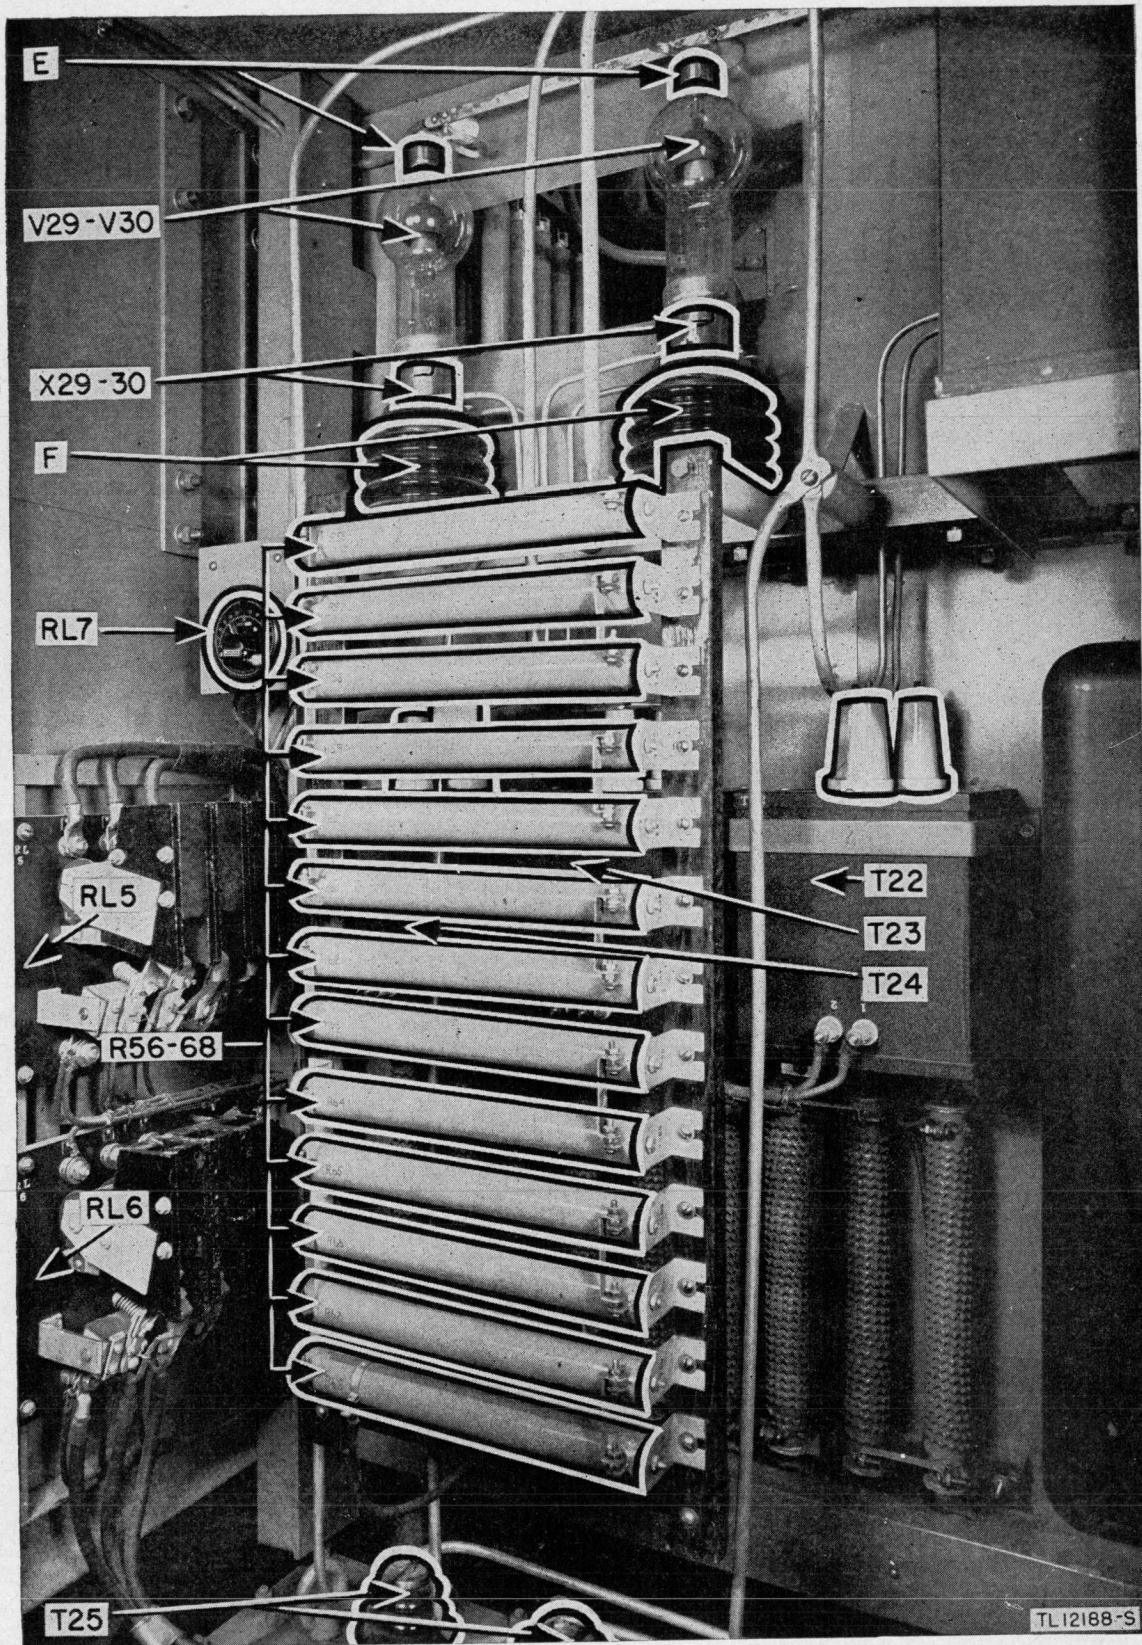
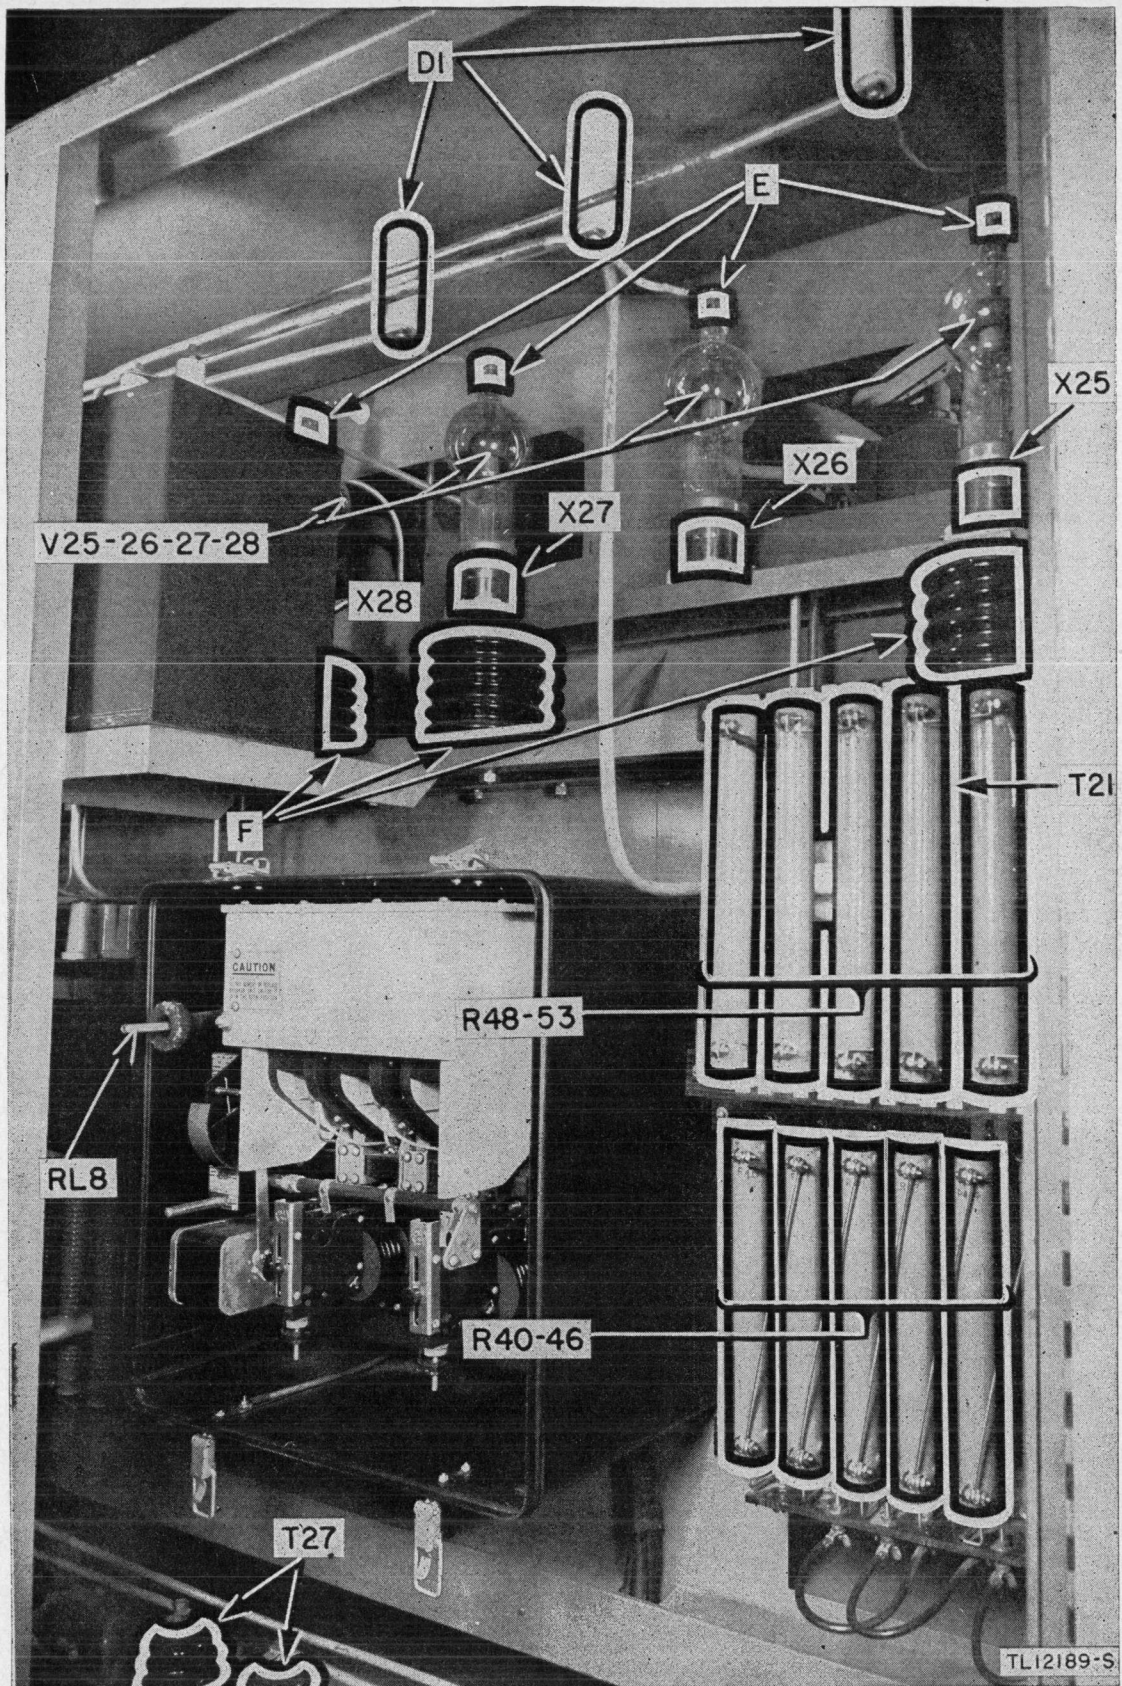

Figure 27. High voltage rectifier, rear view left side.
Figure 28. High voltage rectifier, rear view right side.
*Note.* The parts outlined in white in figures 27 through 40 are parts to be masked as described in the text.
(1) Remove the six type 575A rectifier tubes V29 and V30 (fig. 27) and V25, V26, V27, and V28 (fig. 28).
(2) Remove the reset handle of high-speed circuit breaker RL8 (fig. 28) by extracting the thumb-screw in the end and pulling the handle off the shaft.
(3) Remove the cover of circuit breaker RL8. (See fig. 28.)
d. **MASKING.** (1) Mask the six rectifier plate connector clips E. (See figs. 27 and 28.)
(2) Mask the three plate lead stand-off insulators D1. (See fig. 28.)
(3) Mask the six rectifier tube sockets X29 and X30 (fig. 27) and X25 through X28 (fig. 28), by filling them with tissue paper.
(4) Mask the five tube socket mounting insulators F. (See figs. 27 and 28.)
(5) Mask the front of time delay relay RL7. (See fig. 27.)
(6) Mask the ceramic insulators on filament transformers T21, T22, T23, and T24. (See figs. 27 and 28.)
(7) Mask the contacts of contactors RL5 and RL6. (See fig. 27.)
(8) Mask the ceramic insulators on the three transformers T25, T26, and T27 (figs. 27 and 28) (only two insulators visible in each photograph).
(9) Mask resistors R56 through R68 (fig. 27) with paper and masking tape.
(10) Mask the contacts and any small moving parts of the high-speed circuit breaker RL8. (See fig. 28.)
(11) Mask resistors R40 through R46 and R48 through R53. (See fig. 28.)
e. **DRYING.** (1) Place enough heat lamps or strip heaters inside of the equipment compartments to raise the temperature to 140° F. Each compartment may be heated separately if enough lamps or heater strips are not available for the entire equipment.